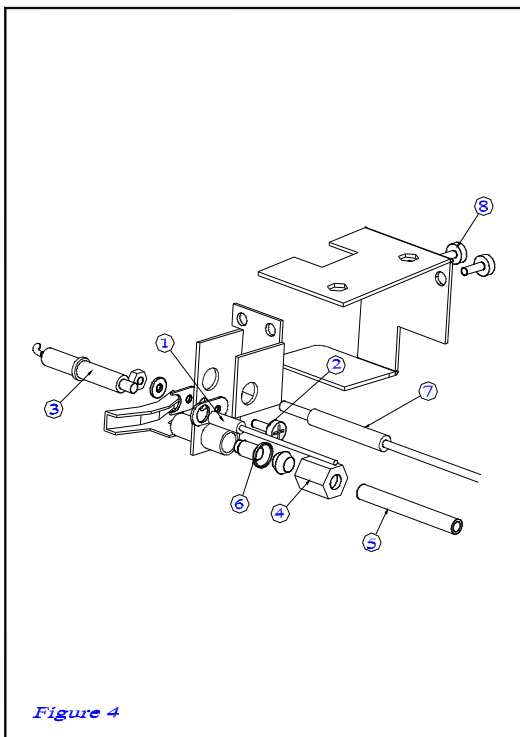

Figure 4
3. At the Pilot Burner, unscrew two screws (figure 4, item 8) and remove the pilot protection bracket inside the grilling compartment.
4. Unscrew nut (figure 4, item 4) and withdraw the thermocouple from the pilot burner assembly.
### REMOVE/REPLACE (figure 4)
### CLEAN/REPLACE (figure 4)